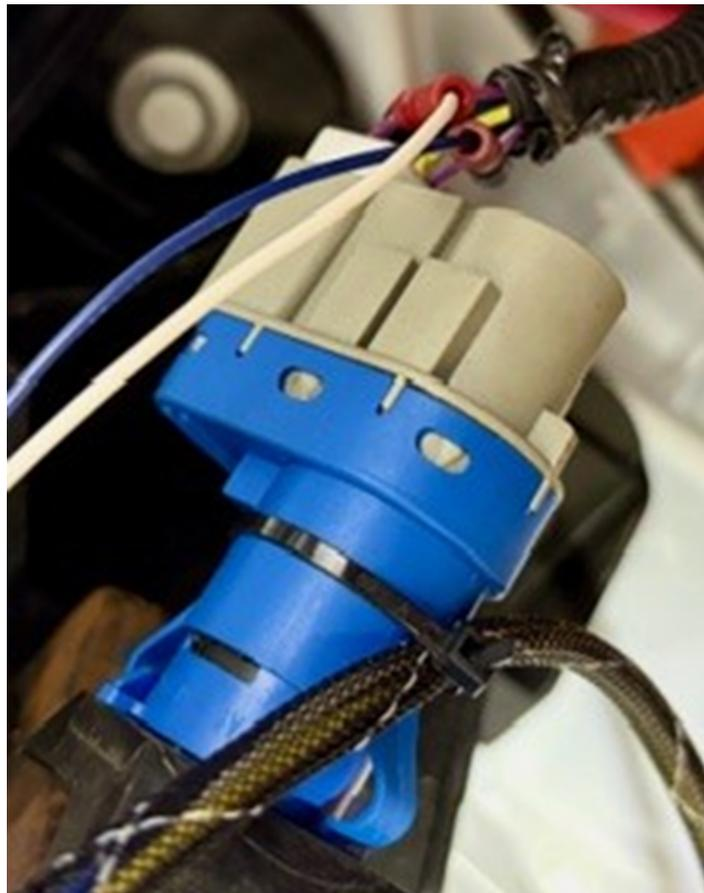

Figure 2
3. Connect AUTO-BLiP **White** wire to the **Red/Yellow** wire on brake pedal switch (Fig 2); Also to **OBD2** (Fig 4)
4. Connect AUTO- BLiP **Blue** wire to to the **Blue/Brown** wire on the brake pedal switch (Fig 2).